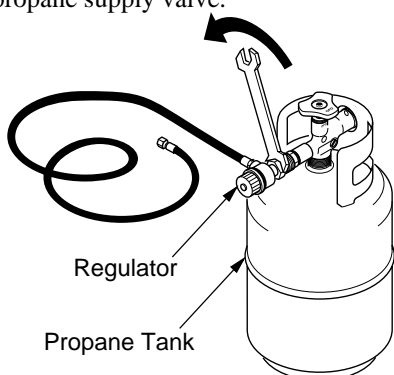

Figure 2 - Connecting Heater to Propane Tank
2. Wrench tighten the fuel connector nut into the propane tank valve (see Figure 2). Turn fuel connector nut counterclockwise to tighten. Threads are left-handed.